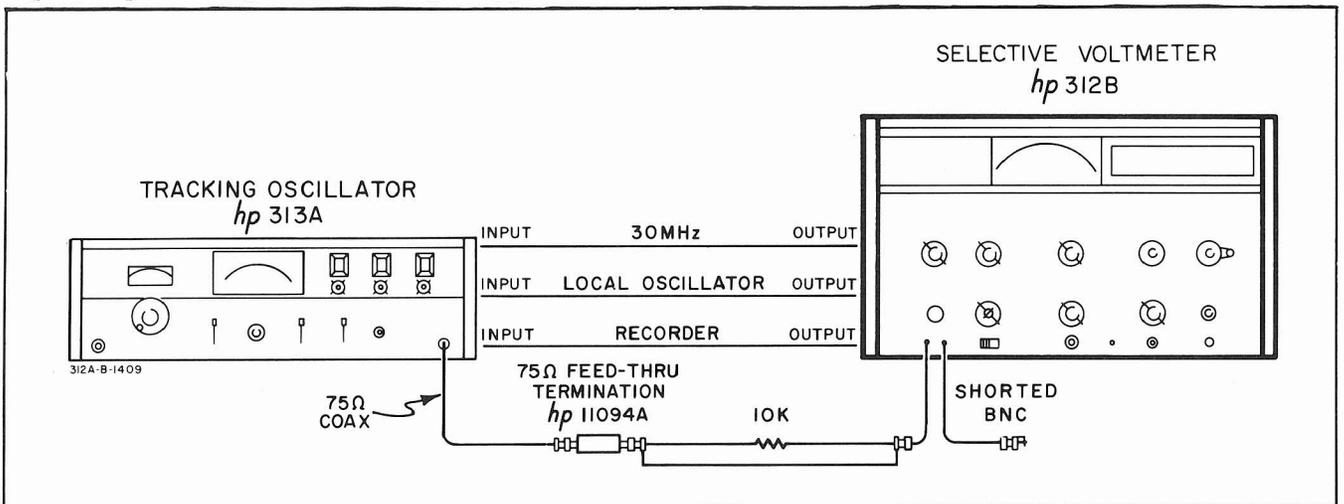

Figure 5-5. Bridging Impedance Test Setup - 312B.
b. Connect a 10 kΩ ± 1% resistor in series with the input lead to J1 on the 312B as shown in Figure 5-5. The 312B Meter indication should drop by 6 dB or less indicating an input bridging impedance to ground of 10 kΩ or greater.